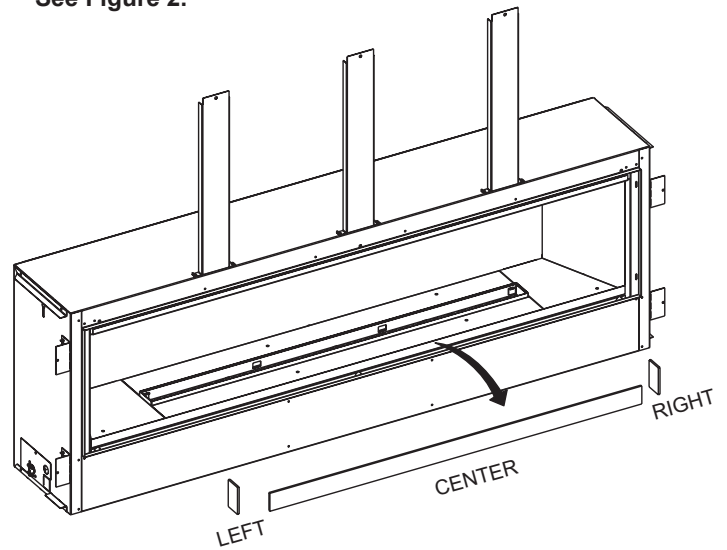

Figure 2
3. Remove the glass panels around burner. Set aside. **See Figure 2.**
15. Reinstall glass panels removed in Step 2. See Figure 2. **NOTE:** Verify glass panels are level.